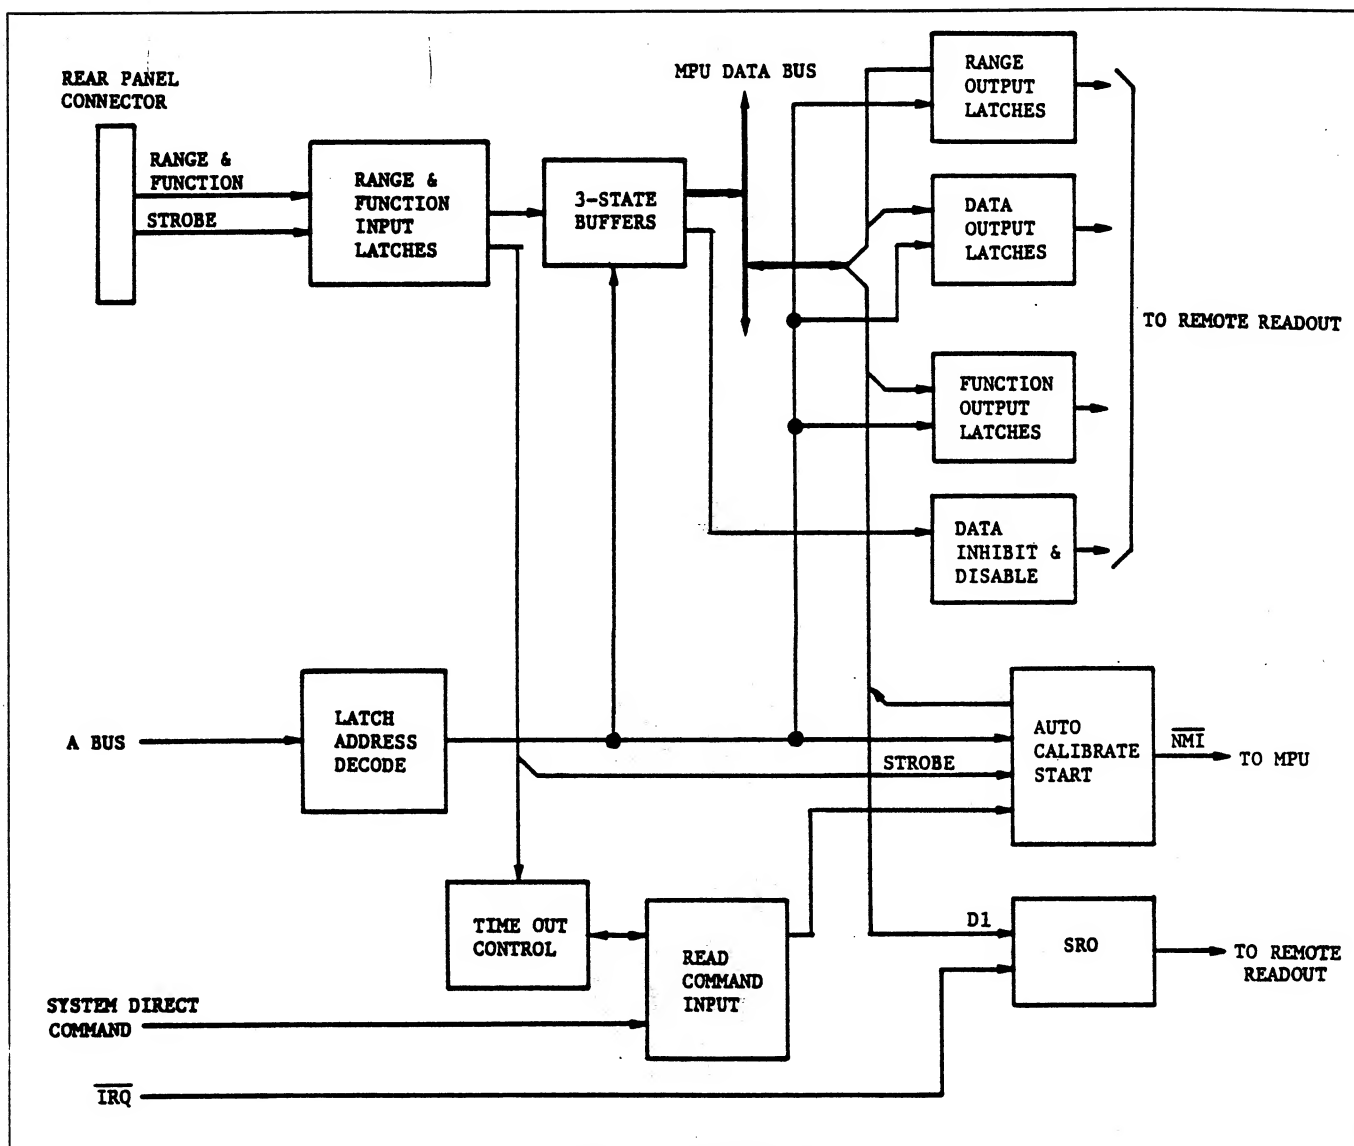

Figure 5.35 - Parallel BCD
5.5.2.1 The Parallel BCD interface (Figure 5.35) provides for remote programming of function and range. Upon completion of a measurement, the function, range and measurement data are routed through output ports to the remote device.